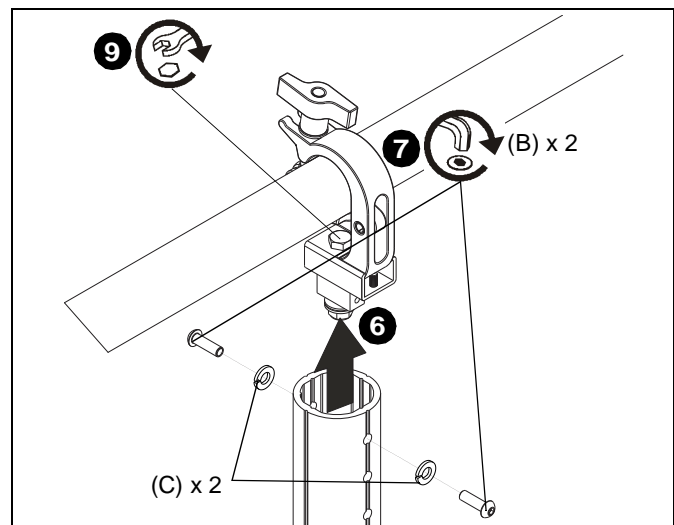

Figure 4
6. Making sure holes on extension column (not included) and CPA380 (A) are aligned, install column onto bottom of CPA380. (See Figure 4)
7. Use M4 hex key (D), two M6x16 button head screws (B) and two M4 lock washers (C) to secure CPA380 to CPA extension column. (See Figure 4)
9. Tighten hex head bolt holding pin connector to clamp using 17mm wrench. (See Figure 4)